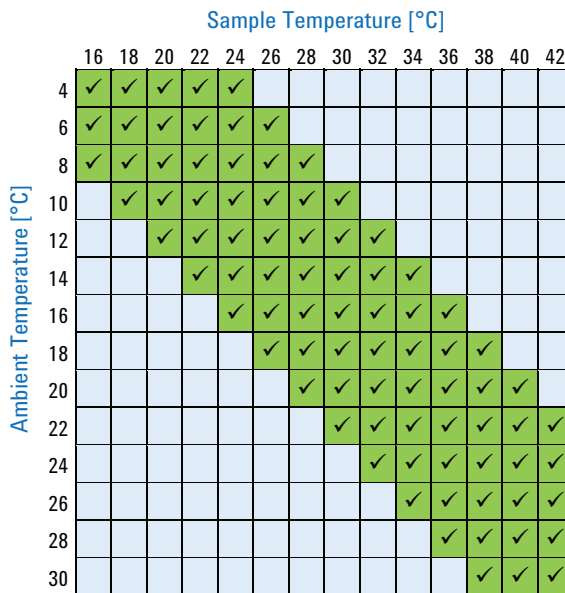

Figure 9 Temperature chart.
Seahorse XF Pro Analyzers have been validated to deliver desired target temperatures in the range of 16 to 42 °C, provided the ambient room temperature is 8 to 20 °C below the target temperature, and in the validated operational room temperature range of 4 to 30 °C. To understand the relationship between the desired sample temperature and required ambient temperature, see the temperature chart in **Figure 9**.
- 2 Ensure the ambient conditions support the desired target temperature (8 to 20 °C above ambient). (See the temperature chart shown in **Figure 9** on page 32.)